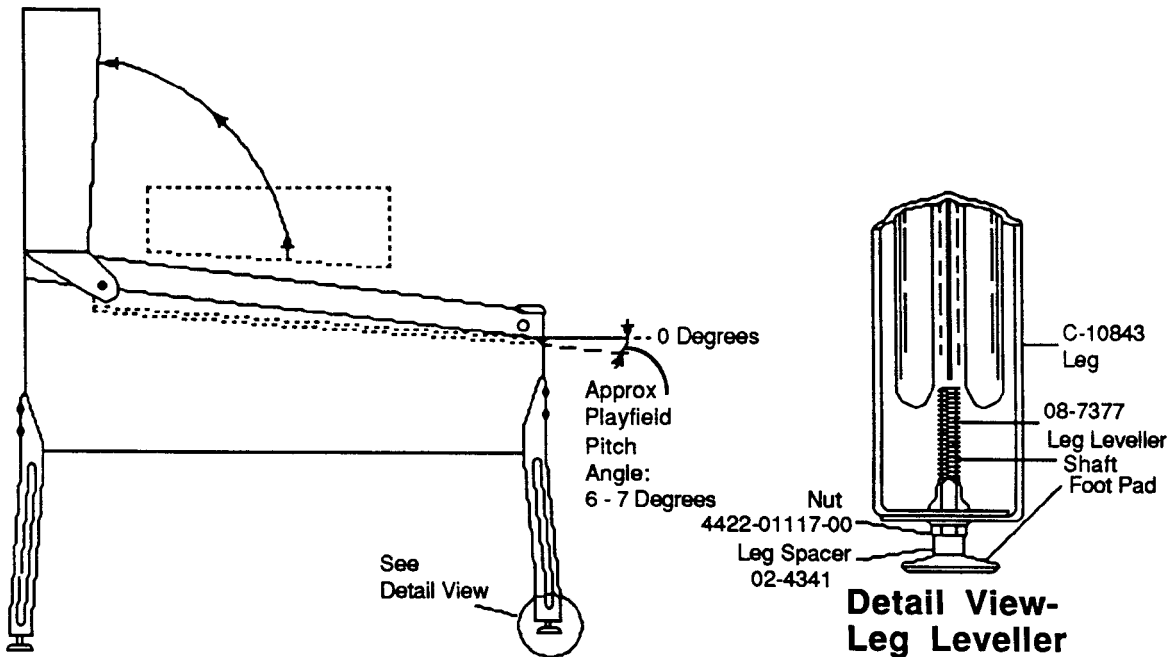

Figure 3. Pinball Assembly, Playfield Pitch Angle, and Leg Leveler Details.
3. Attach the front legs (after installing leg levellers), using leg bolts. See Figure 3 for details.
- Place a level or an inclinometer on the playfield surface. Adjust the leg levellers for proper playfield level (side-to-side) and playfield pitch angle (incline) of approximately 6-7 degrees. NOTE: It is recommended that these measurements be made ON the playfield, not the cabinet nor the playfield cover glass. Tighten the nut on each leg leveller shaft to maintain this setting, as shown in Figure 3.